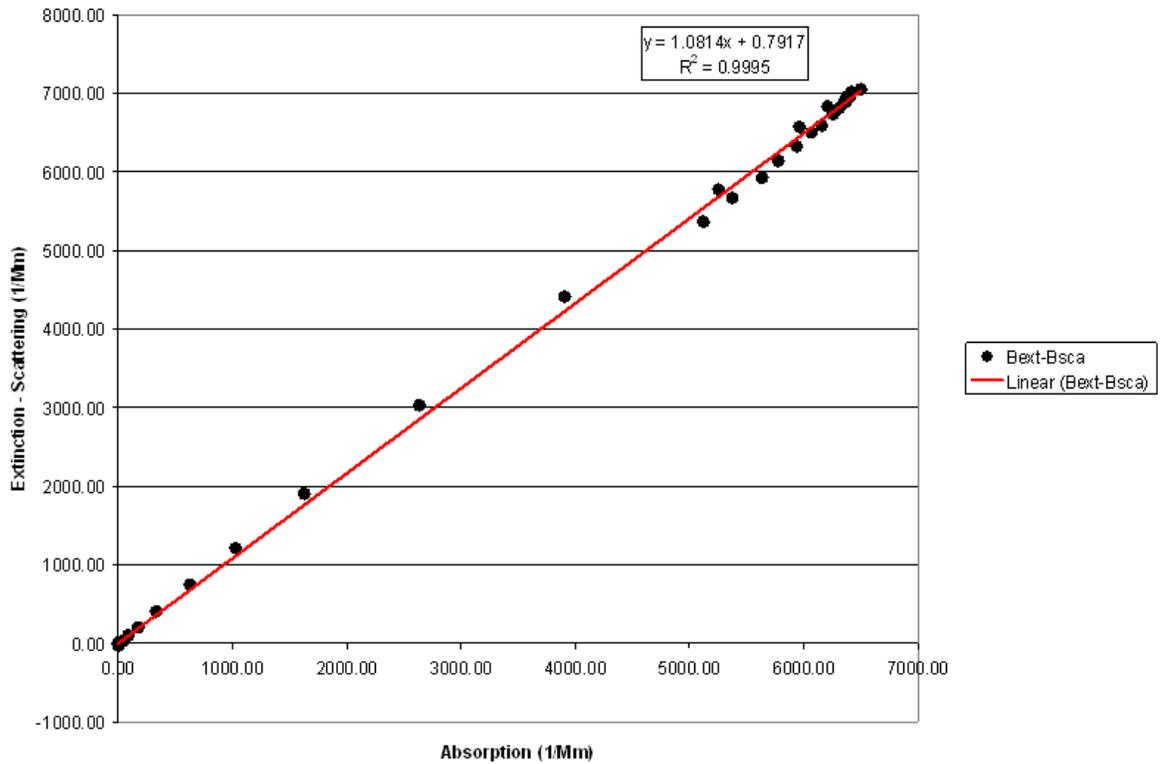

Figure 8: Regression Plot of Calculated [Extinction – Scattering] Measurement against B_{abs} .
1. The analysis will be conducted similar to that for the scattering particles, except that the data plot will use $(B_{ext} - B_{scat})$ on the Y axis, as shown in Figure 8.